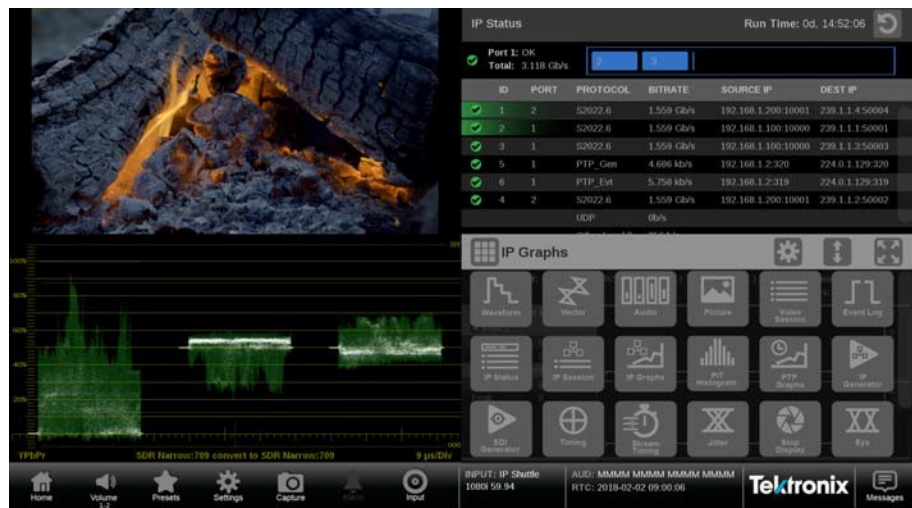

Figure 22: PRISM display in four-tile mode
Figure 22 shows the instrument display with the application selection menu open in tile four.
2. If necessary, select the  icon to open the list of available applications. (See Figure 22.)